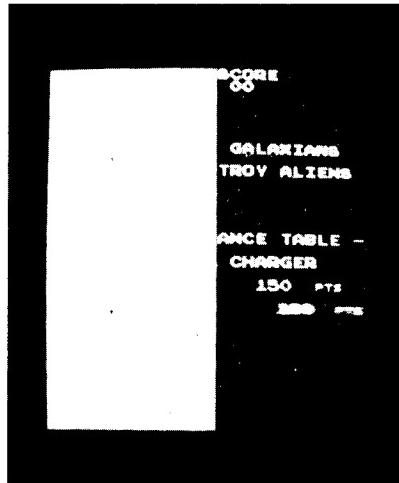

Fig. 2 Normal VB as seen with the video probe on pin 12 of IC6A
- 5) If there is no problem here, change the corresponding 74LS368, according to Fig. 2.
Figures 2 through 16 show the 8 basic types of data as seen by the video probe. As can be seen in Fig. 2, 3 and 4, the VB signals start out wide and few and get thinner and more numerous as the probe is moved from pin 12 to 14 of IC5A and IC6A. The above description applies to Figures 6, 7, and 8, substituting HB signals with VB signals and IC3A and IC4A with IC's 5A and 6A.